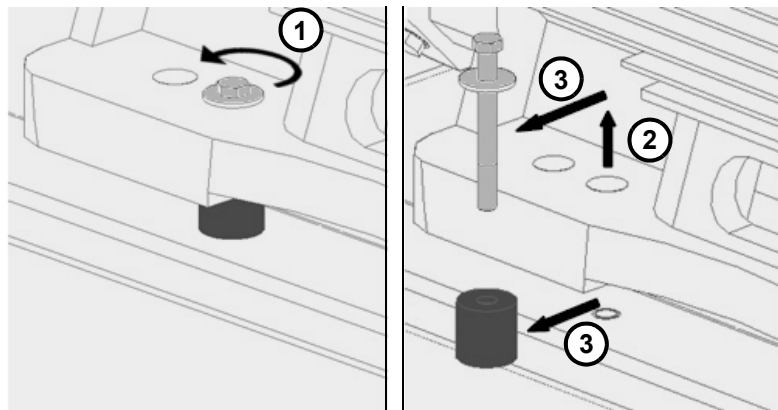

Fig. 4.5: Removing the transport lock (Drive)
2. Undo the two screws (one on the long side of each motor), see figure 4.5 (1).
3. Take the screws out from above, see figure 4.5 (2).
4. Remove the screws and red spacer sleeves, see figure 4.5 (3).